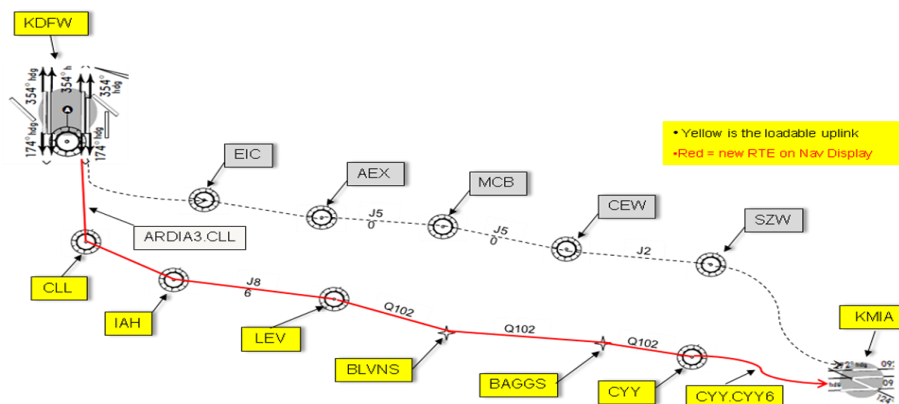

Figure 12. Depiction of a complete route modification.
- **Full Reroute:** This is displayed as “CLEARED ROUTE CLEARANCE” and revises the routing all the way to destination. A complete route modification that does not connect to the previously cleared flight plan (as shown in Figure 12) may be loaded into the FMS via the LOAD prompt. The DP ARDIA3.CLL must be manually entered into the FMS along with the runway (if required).